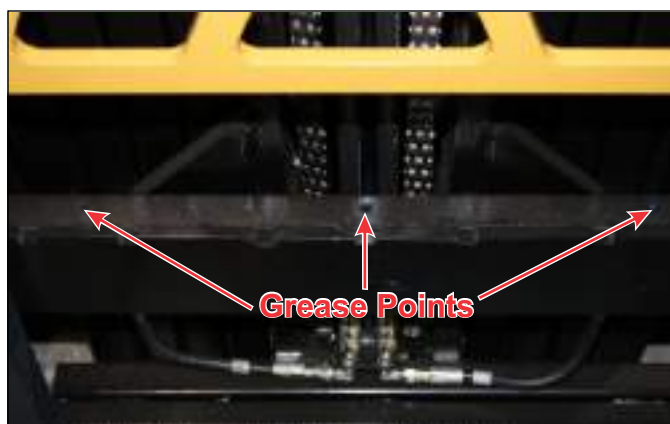

Figure 6-9: Fork Positioner Lubrication Areas
4. Using a brush, lubricate the top areas on the fork rails, including a thin film on the front face of both rails. Using a grease gun apply grease to the lower fork rails. **See Figure 6-9.**